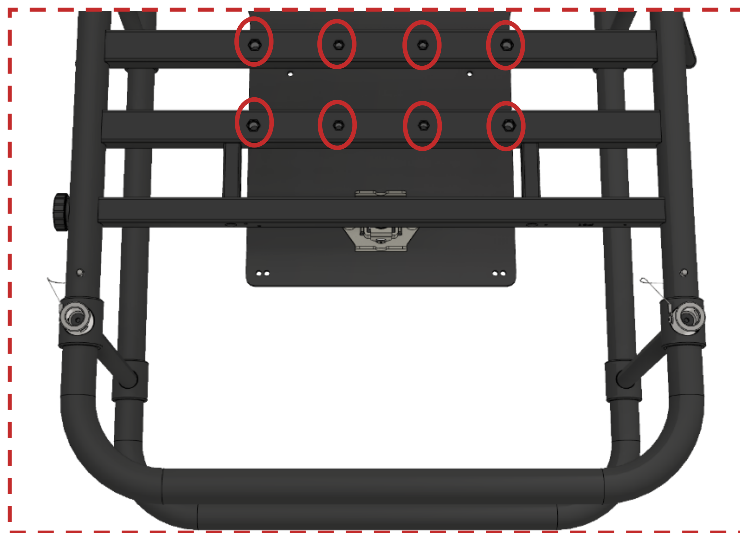

Figure 19 Inspection of mounting threads at bottom side
- Before and after each installation, the **M8 and M10 mounting holes** (see red marking in Figure 19) must be carefully inspected, as they may get damaged during the installation of the hanging accessory.